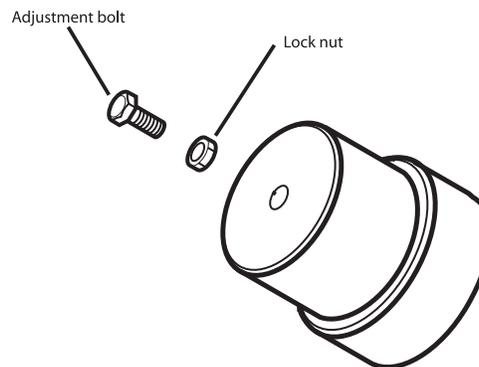

Figure 5-3 Lock nut and adjustment bolt on Air & Oxygen regulators
- 4 To adjust the air inlet pressure regulator, use a 5/16" open ended wrench to loosen the bottom lock nut (see Figure 5-3). Using a 1/4" open ended wrench, rotate the top adjustment bolt to adjust the pressure (see Figure 5-3). Rotate the bolt clockwise to increase the pressure and counter clockwise to decrease the pressure. When the reading in the **Ppeak** window is 15.5 ± 0.3 psig secure the bottom lock nut.
- 6 To adjust the oxygen inlet pressure use a 5/16" open ended wrench to loosen the bottom lock nut (see figure 5-3). Using a 1/4" open ended wrench rotate the top adjustment bolt to adjust the pressure. Rotate the bolt clockwise to increase the pressure and counter clockwise to decrease the pressure. When the reading in the **Pplat** window is 15.5 ± 0.3 psig secure the bottom lock nut.